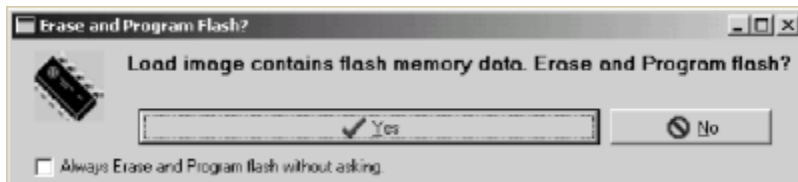

Figure 8-7: Erase And Program Flash Window
11. Click Yes in Erase and Program FLASH window. (**Figure 8-7**)